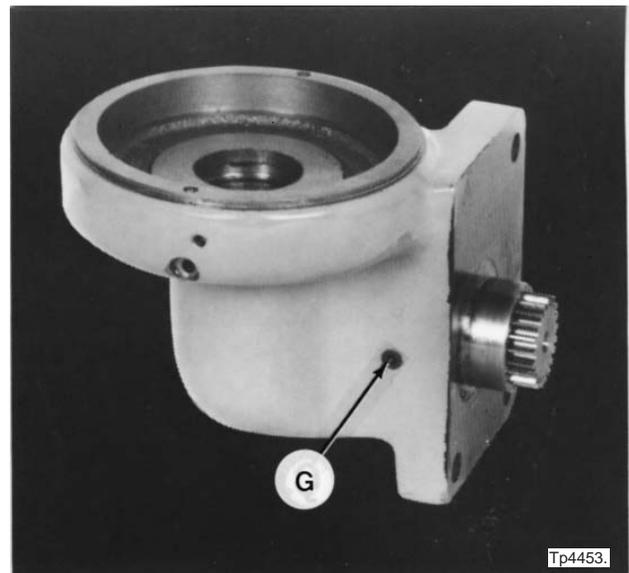
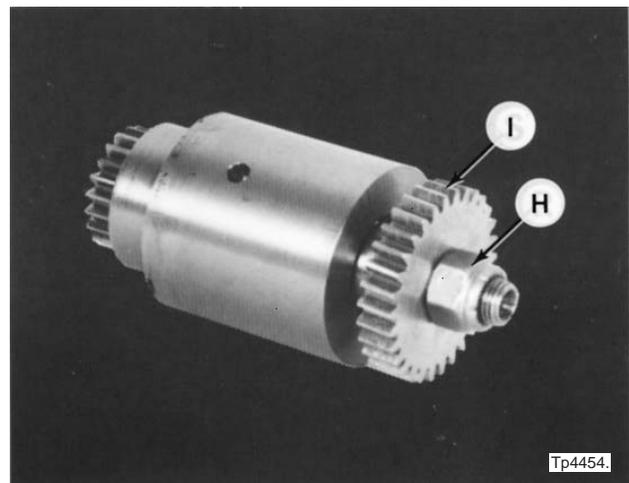

Figure 3.47 - Retaining Screw for Worm Wheel Housing
Figure 3.48 - Worm Wheel and Housing
19. Remove screw "G", Figure 3.47, and remove worm wheel and housing, Figure 3.48 .
20. Remove nut "H", Figure 3.48, and worm wheel "I".
3. Replace worm wheel "I", Figure 3.48, and nut "H".
4. Replace worm wheel and housing, Figure 3.48, and tighten screw "G", Figure 3.47 .